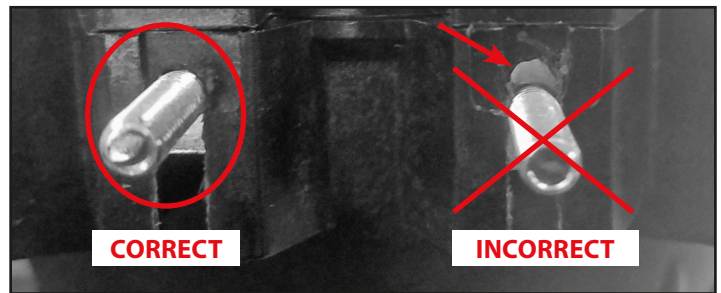

Fig. 2. T-bolts must be flush against the rounded end of the slots. If you can see silver (see arrow), then there is a gap between the bolt and end of the slot.
3. Slide the provided t-bolts into the replacement motor's t-bolt slots until they are flush with the rounded edges. See fig. 2.